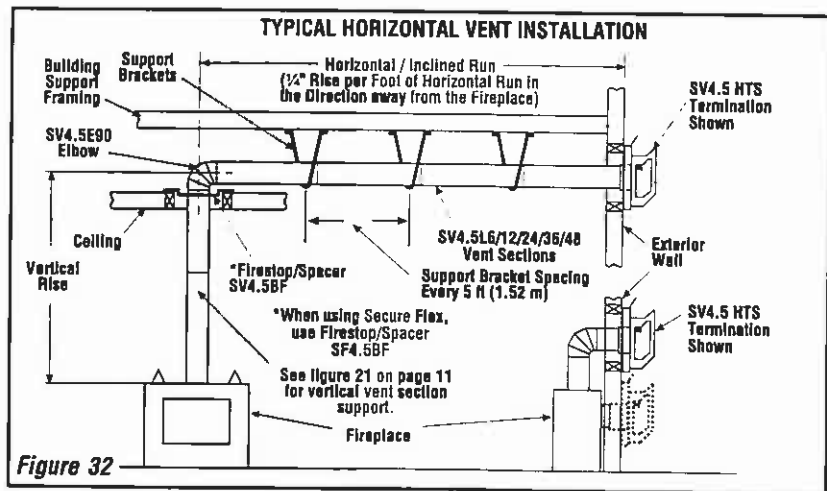

Figure 32
G. Continue installation of horizontal/inclined sections - Continue with the installation of the straight vent sections in horizontal/inclined run as described in Step C. Install support straps every 5 ft. (1.52 m) along horizontal/inclined vent runs using conventional plumber's tape. See page 15, *Figure 32*. It is very important that the horizontal/inclined run be maintained in a straight (no dips) and slightly elevated plane in a direction away from the fireplace 1/4" per foot (20 mm per meter) of horizontal vent. Use a carpenter's level to measure from a constant surface and adjust the support straps as necessary.
Figure 32, and Figures 36 to 43 on pages 17, 18 and 19 and their associated Horizontal Vent Table illustrate the various horizontal venting configurations that are possible for use with these appliances. Secure Vent pipe applications are shown in these figures; Secure Flex pipe may also be used. A Horizontal Vent Table summarizes each system's minimum and maximum vertical and horizontal length values that can be used to design and install the vent components in a variety of applications.
Continue with the installation of the straight vent sections in horizontal/inclined run as described in Step E. Install support straps every 5 ft. (1.52 m) along horizontal/inclined vent runs using conventional plumber's tape. See Figure 32 It is very important that the horizontal/inclined run be maintained in a straight (no dips) and slightly elevated plane in a direction away from the fireplace of 1/4" rise per foot (20 mm per meter) of horizontal vent. Use a carpenter's level to measure from a constant surface and adjust the support straps as necessary.
1. Install the square termination (SV4.5HTS) or (SV4.5HTSS) - For the last step, from outside the exterior wall, slide the collars of the termination onto the adapter (the outer over the outer and the inner inside the inner) until the termination seats against the exterior wall surface to which it will be attached. Orient the housing of the termination with the arrow pointed upwards. Secure the termination to the exterior wall. The horizontal termination must not be recessed into the exterior wall or siding by more than the 1 1/4" (32 mm) as shown in Figure 32.